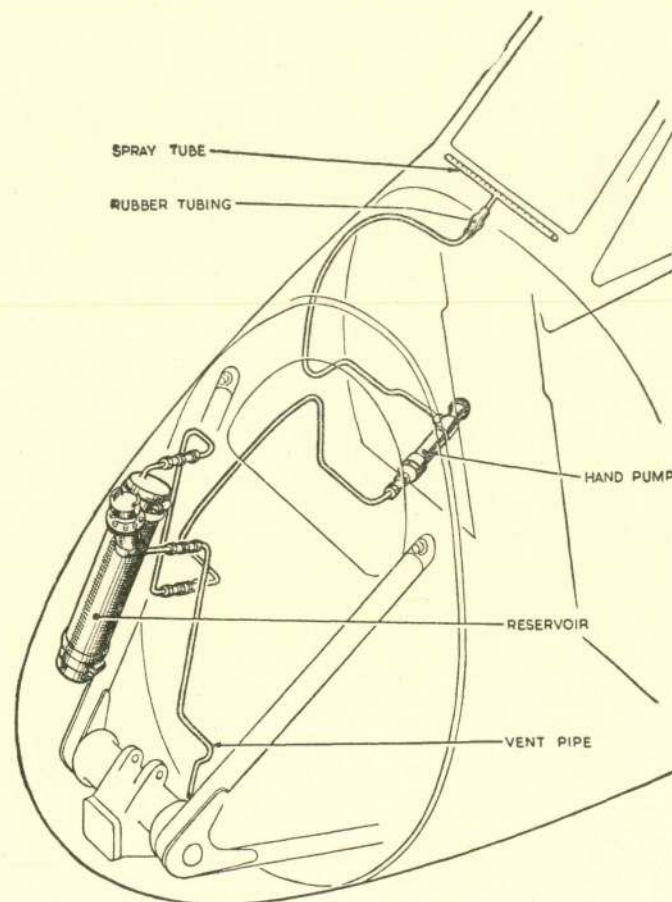

Fig. 1. Windscreen de-icing
Windscreen de-icing	Fig. 1
1. The equipment for de-icing the outside of the windscreen consists basically of a tank, hand pump and spray unit. The installation of the equipment is illustrated in fig. 1. Details of the fluid specification and the capacity of the supply tank are given in the Leading Particulars.